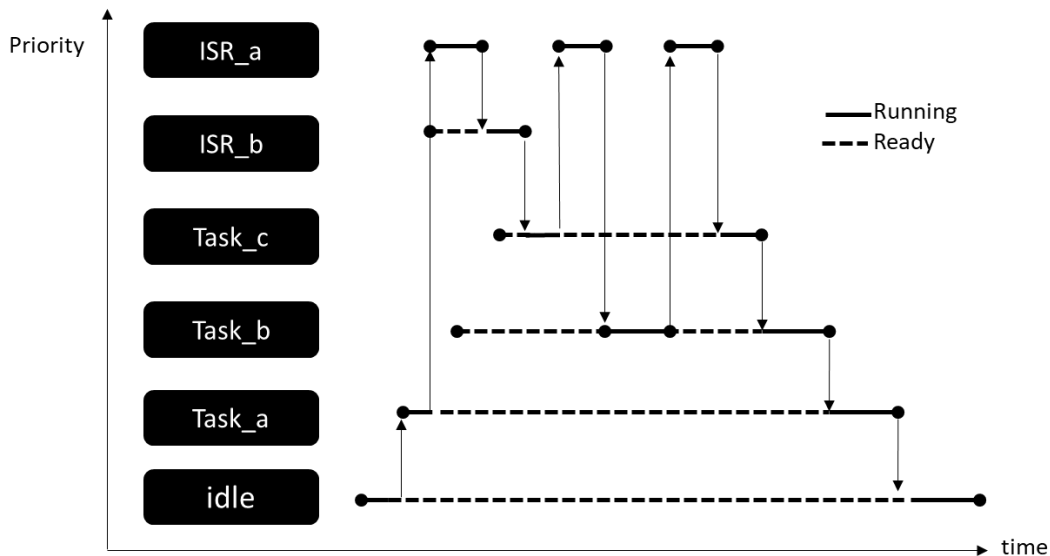

Figure 4 – Task priority and scheduling diagram for a freeRTOS based program.
A freeRTOS program has multiple tasks running with different priority levels assigned to each Interrupt Service Routine (ISR), Task and Idle type. Assume ISR's return to tasks of the highest priority that are ready to run. The context switches that occurred between each thread when the program was executed is shown in **Figure 4**.
- (a) Using **Figure 4** as a guide, identify one potential problem that has occurred in the execution of this multithreaded program using FreeRTOS terminology. Explain the problem and propose a method, if possible, to solve it. (2 Marks)